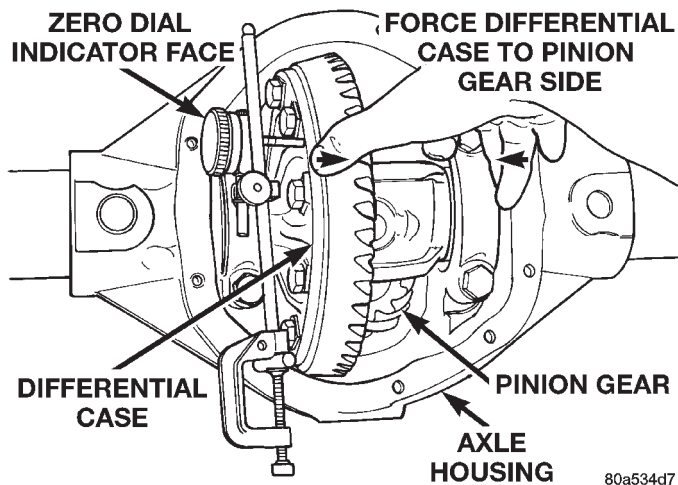

Fig. 57 Hold Differential Case and Zero Dial Indicator
(21) Push and hold differential case toward pinion gear (Fig. 57).
(22) Zero dial indicator face to pointer (Fig. 57).